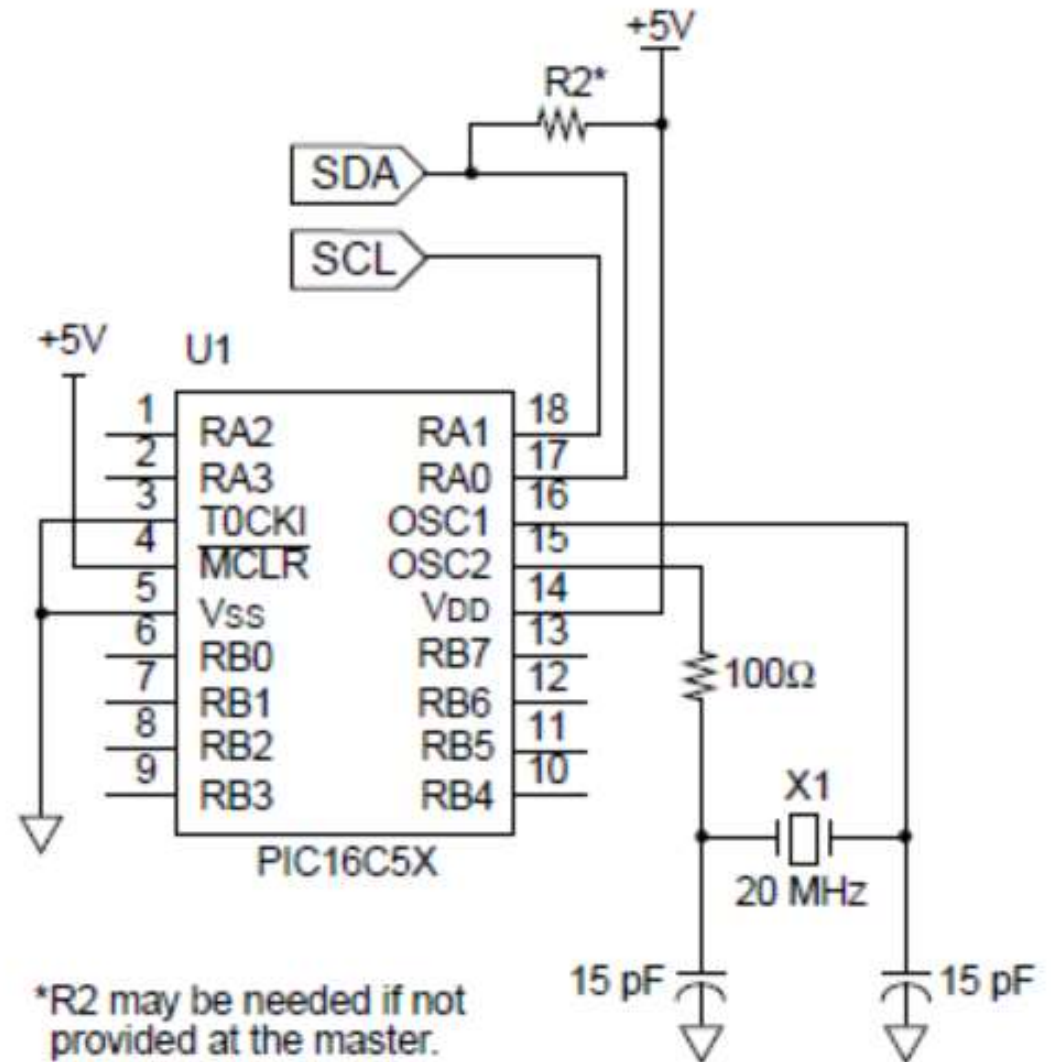

Figure 8: Schematics
- The connections to the device are shown in Figure 8.
- This application emulates an I2C device with 8 registers, accessed as sub-addresses 1 through 8 (module 7), plus a data channel (0).